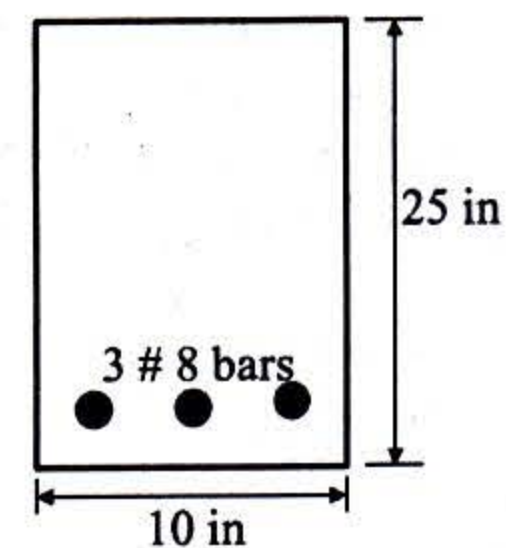

Figure: 02
2. (a) Write the difference between WSD and USD method. (05)
- (b) A cross-section of a rectangular beam as shown in Figure: 02. The concrete tensile strength in bending (i.e. its modulus of rupture) is 475 psi. (15)